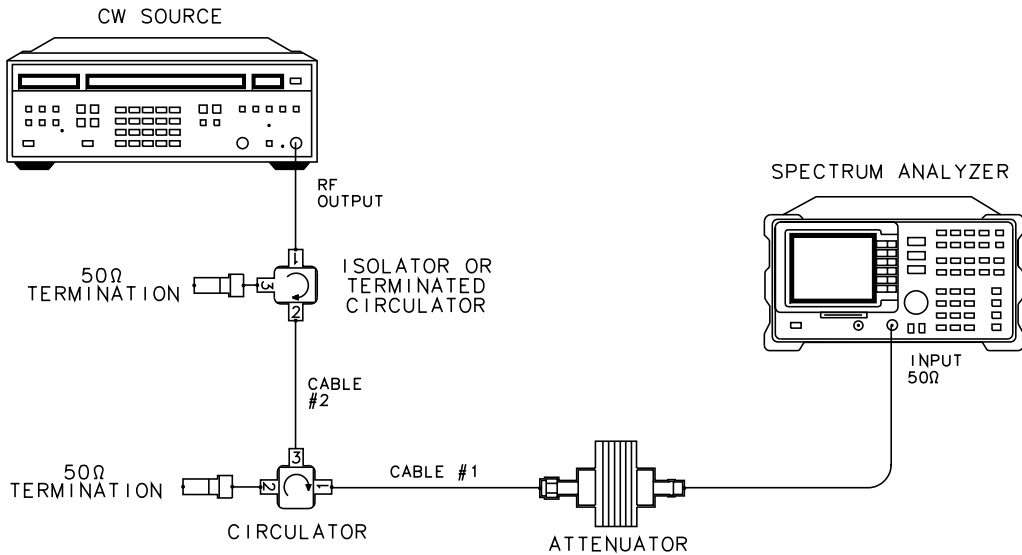

Figure 32 Test Setup for CW Source Adjustment
- 3 Read the text displayed and make the connections described. Refer to Figure 32 on page 78 for the equipment setup.